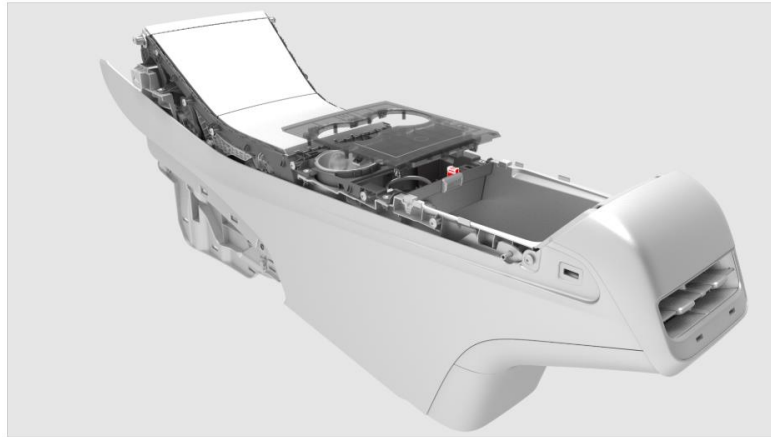

Figure 5
6. Disconnect the electrical connector from the security body controller module (Figure 5), and then remove the décor trim from the center console.
- Reconnect the electrical connector to the security body controller module (Figure 5).